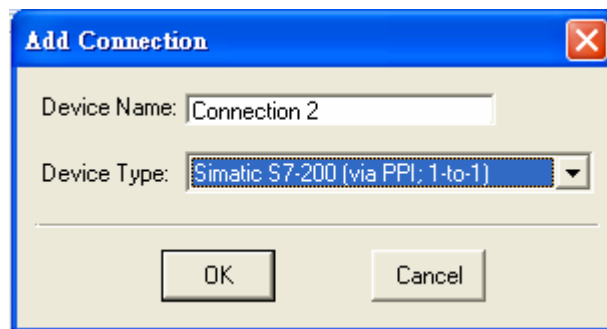

Figure 231. Add a second linked PLC
4. To add a **second** PLC, click [Add] on the [Connection] tab, for example, "Simatic S7-200 [via PPI; 1-to-1]." See Figure 231 .